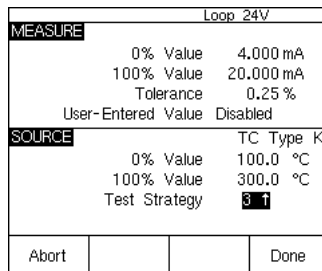

Figure 6
- At this point depress "As Found" and fill in the template as follows (Figure 6). (On a 741 or 743, select "Instrument" and press "ENTER," then fill in the template. In place of "User-Entered Value=Disabled," use the default "Delay=0 seconds.")